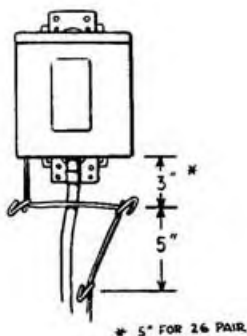

Fig. 42
- (a) When detachable mounting bracket is used, loosen lower right hand machine screw on mounting bracket. Skin and clean end of No. 14 ground wire, place bared end of wire around screw in direction in which screw tightens. Tighten screw firmly. See Fig. 42.